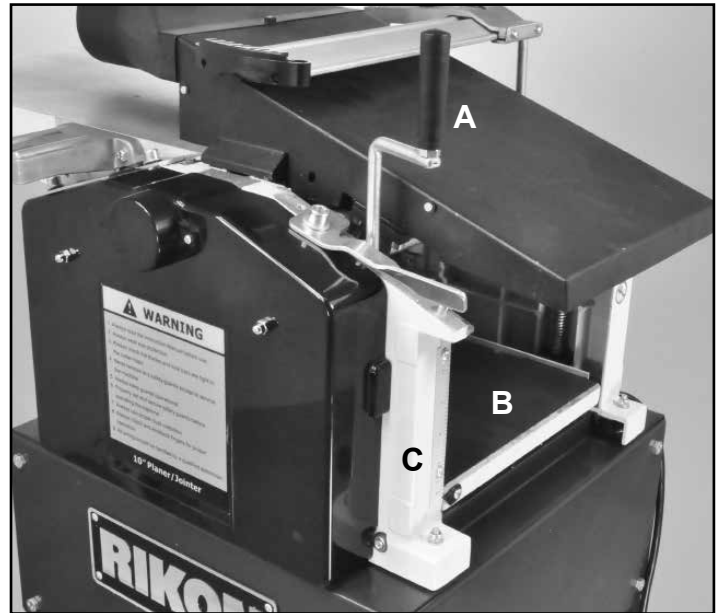

FIG. 22
Height adjustment of the planer's table is made with the Handle (#130, FIG. 22, A). One full turn of the crank changes the height of the Planer's Table (#142, B) by 1/8".
2. So that adjustments can be made, remove the fence assembly, the cutterhead guard needs to be lifted up, and the Dust Hood (#194) pivoted onto the infeed table into the planing use position. FIG. 22.
1. The outfeed jointer table and the fence needs to be removed, and the dust hood lifted up and pivoted back onto the cutterhead to gain access inside of the planer. See page 14, step 2 and FIG. 22 on this process.